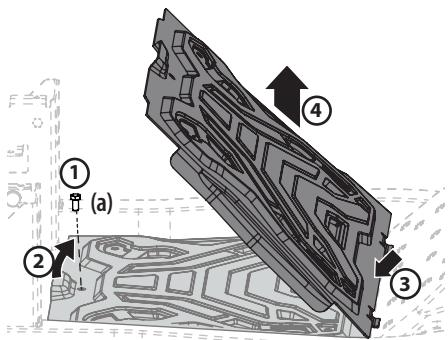

Figure 34
- Using the multi-tool (if equipped) or a 1/2" socket, remove the hex screw (a) that secures the floor panel in place. See 1 in Figure 34.
- Carefully lift the rear of the floor panel. See 2 in Figure 34.
- Slide the floor panel rearward to free the front of the floor panel. See 3 in Figure 34.
- Lift it off the tractor. See 4 in Figure 34.